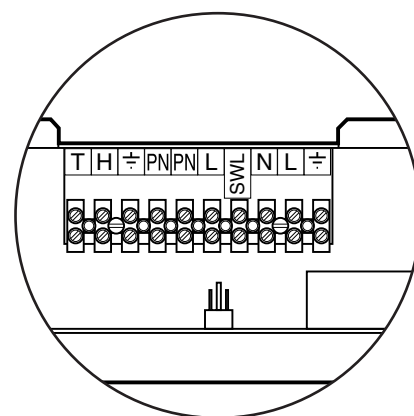

Fig. 17
6. Connect live, neutral, earth, and switched live to L, N, ⏏ & SL of the terminal strip. The pump live, neutral and earth should be connected to PL, PN & ⏏ of the terminal strip (Fig. 17).